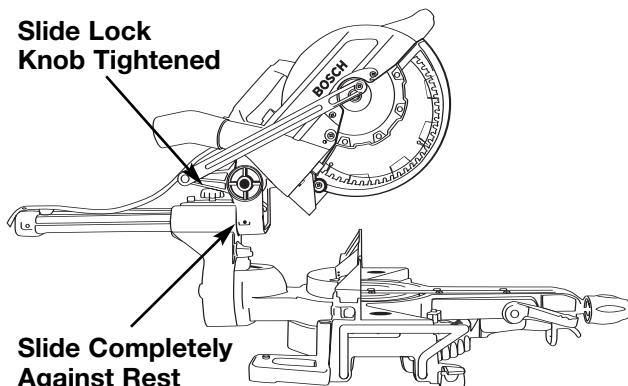

Figure 26. Chop Cut
- Slide the head assembly to the rear as far as it will go (Figure 26).
- Tighten the slide rail lock knob (Figure 26).